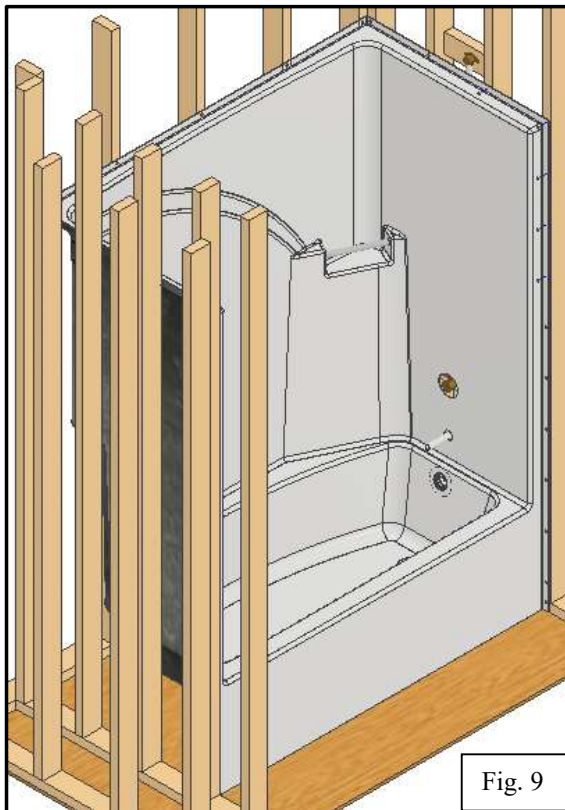

Fig. 9
- 6) While unit is level, start securing the top flange to studs. It is recommended that holes be pre-drilled. Then install screws all along the front vertical flanges on 8" centers. Use #8 x 1" pan head screws. (Fig. 9, 10, & 11)